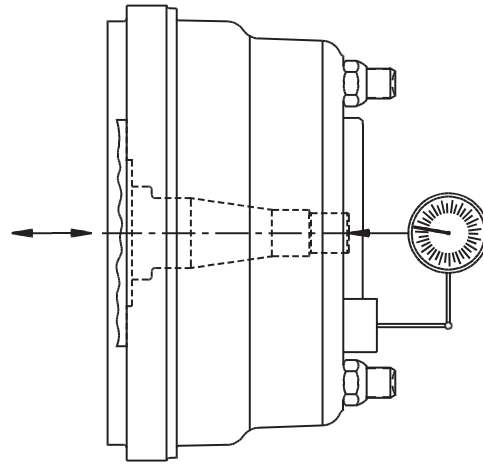

Figure 18 - Wheel End Play Measurement
23. Check oil level through the hub cap window. (See Figure 18). If level is below the "add" level line, then fill with recommended oil until "full" level is achieved. Add oil slowly since the heavy weight oil will settle slowly in the hub. (Note: The hub cap window can only be cleaned with mild soap and water. Aromatic solvents should not be used as they will impair the transparency of the window.)